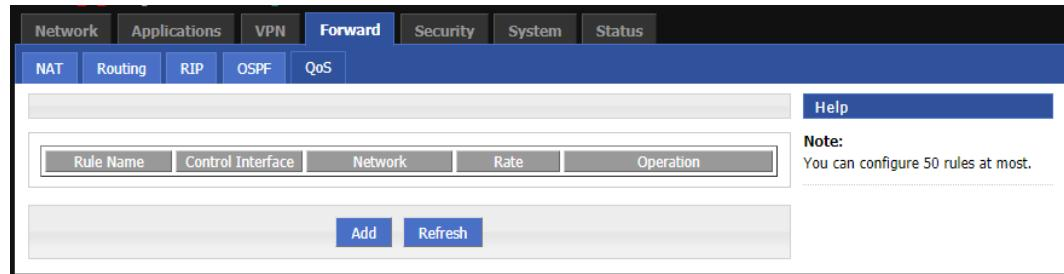

Figure 5-41 QoS tab
Step 2 Click Forward Settings>QoS to open the QoS tab, as shown in Figure 5-41.